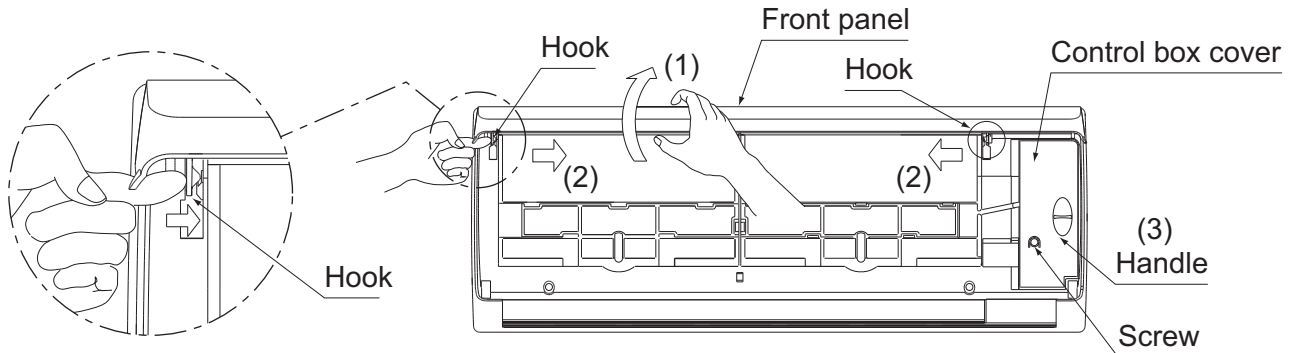

Fig. 7
(2) Remove the front panel and the control box cover. (Refer to Fig. 7)